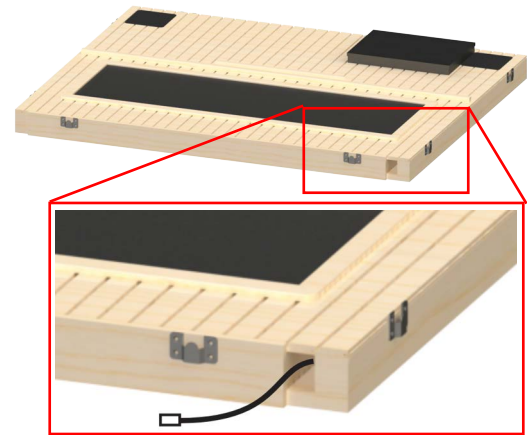

Figure 3. Laying the Floor Panel
34. Connect the threshold lighting strip cable #6 to the #6 cable located at the front right corner opening on the floor panel. See Figure 3.